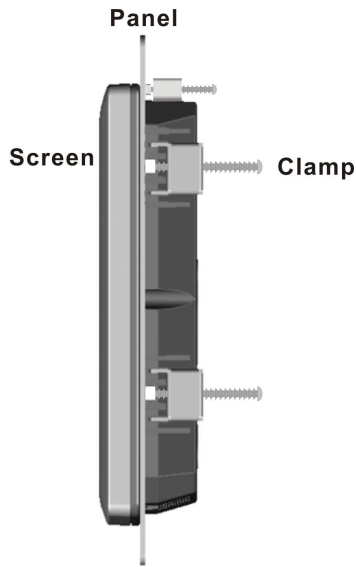

Figure 4-18: Tighten the Panel Mounting Clamp Screws
Step 5: Tighten the screws that pass through the panel mounting clamps until the plastic caps at the front of all the screws are firmly secured to the panel (Figure 4-18).